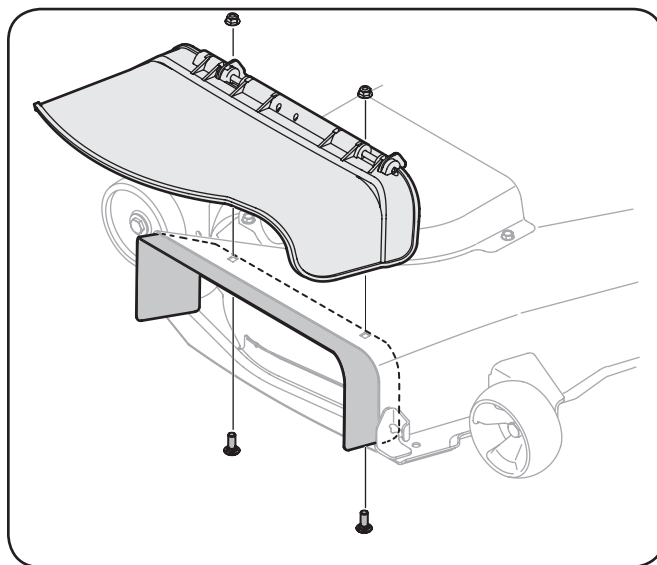

Figure 4-17
3. Install the chute discharge plate to the bottom side of the deck opening, as seen in Figure 4-17, using two carriage bolts (710-3168) supplied in hardware pack 689-00329.